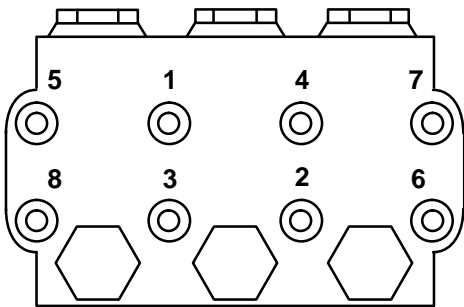

Figure 4
8. Install the capscrews and washers finger-tight. Torque the screws to 22 ft-lb (30 N·m) following the tightening pattern (Fig. 4). Uneven tightening may cause the manifold to bind or jam.